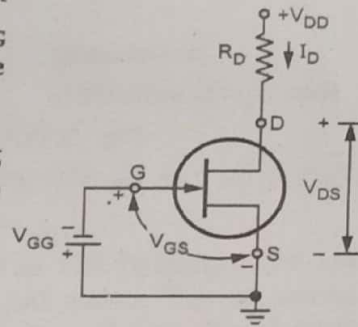

Fig. Q.15.2 Simplified gate bias circuit
- This permits R_G to replace by short circuit equivalent, simplifying the gate bias circuit as shown in the Fig. Q.15.2